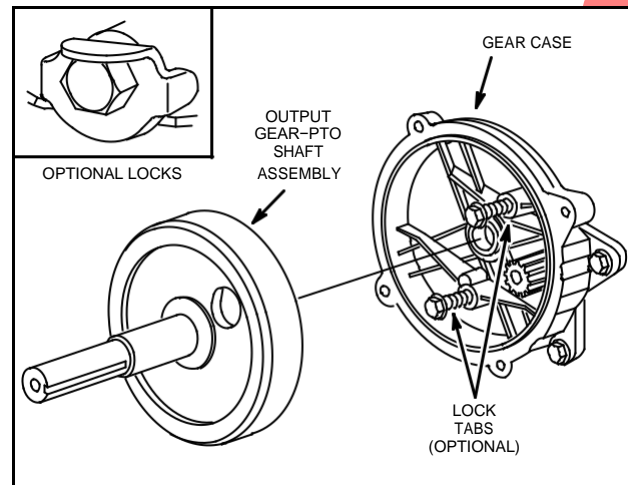

Fig. 131 – REMOVING DRIVE GEAR AND GEAR CASE
3. Slide gear case off engine, Fig. 131.